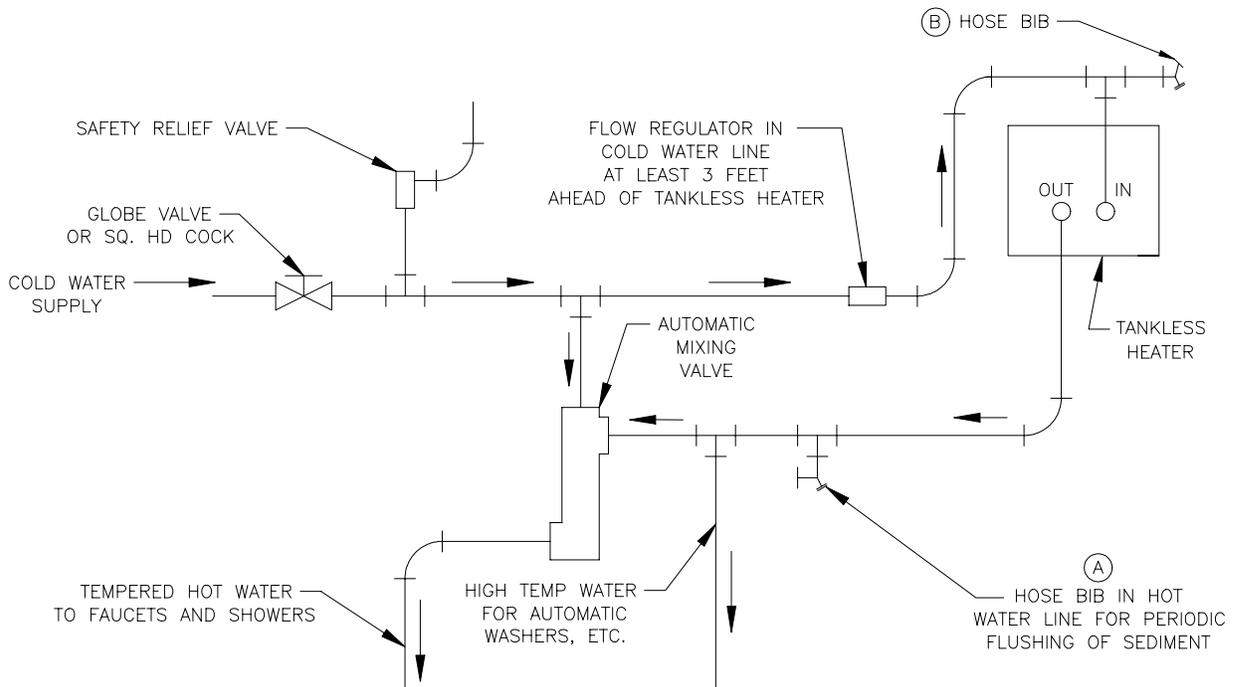

Figure 5: Schematic Tankless Heater Piping
2. **TEMPERING OF HOT WATER**— Installation of an automatic mixing valve will lengthen the delivery of the available hot water by mixing some cold water with the hot. This prevents the possibility of scalding hot water at the fixtures. In addition, savings of hot water will be achieved since the user will not waste as much hot water while seeking a water temperature. Higher temperature hot water required by dishwashers and automatic washers is possible by piping the hot water from the heater prior to entering the mixing valve. The mixing valve should be "trapped" by installing it below the cold water inlet to heater to prevent lime formation in the valve. Refer to Figure 5.